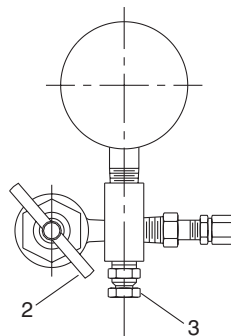

Figure 4
- Remove protective cover (A) and the secondary seal (B) from the Diaphragm accumulator. Check torque on the gas valve to be 9 ft-lbs (10.3 cm kg).
- Refer to Figure 4. Back gas chuck "T" handle (2) all the way out (counterclockwise), attach charging and gauging head assembly by screwing the air chuck (2) to the valve stem of the Diaphragm accumulator and tighten (10-15 in lbs) (11.5-17 cm kg).
- Close bleed valve (3).
- Turn "T" handle (2) in clockwise motion.
- When finished checking the precharge, turn "T" handle (2) counterclockwise all the way, then open bleed valve (3).
- Replace secondary seal (B) and protective cap (A).
For accumulators having gas valve as shown in Figure 6, attach gauging assembly as shown in Figure 4 following Steps A through D. Then, open bleed valve (3) until all gas pre-charge is relieved from accumulator. Then remove gauging assembly. The accumulator is now safe to remove from the system.